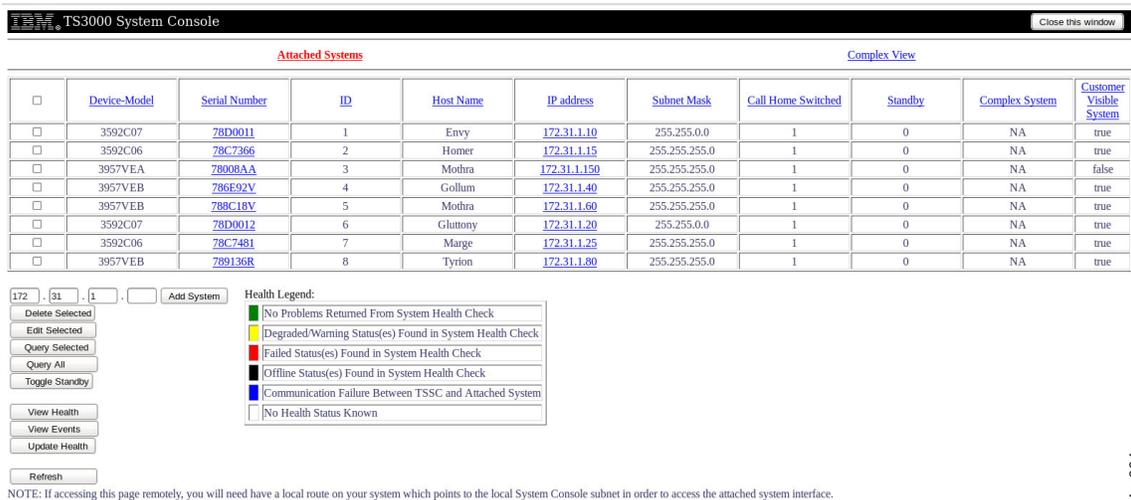

Figure 61. Add System Screen
4. Click **Attached Systems**. You see the screen shown in Figure 61.
- Click **Attached Systems**. You will see the screen shown in Figure 61 on page 49
4. Click **Attached Systems**. You will see the screen shown in Figure 61 on page 49.